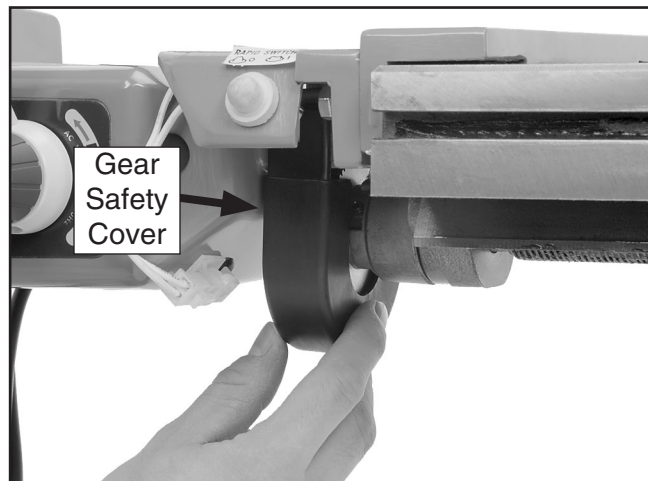

Figure 9. Installing the gear safety cover.
- Remove the backing from the adhesive tape on the gear safety cover flanges, then mount the cover on the assembly, as shown in **Figure 9**.